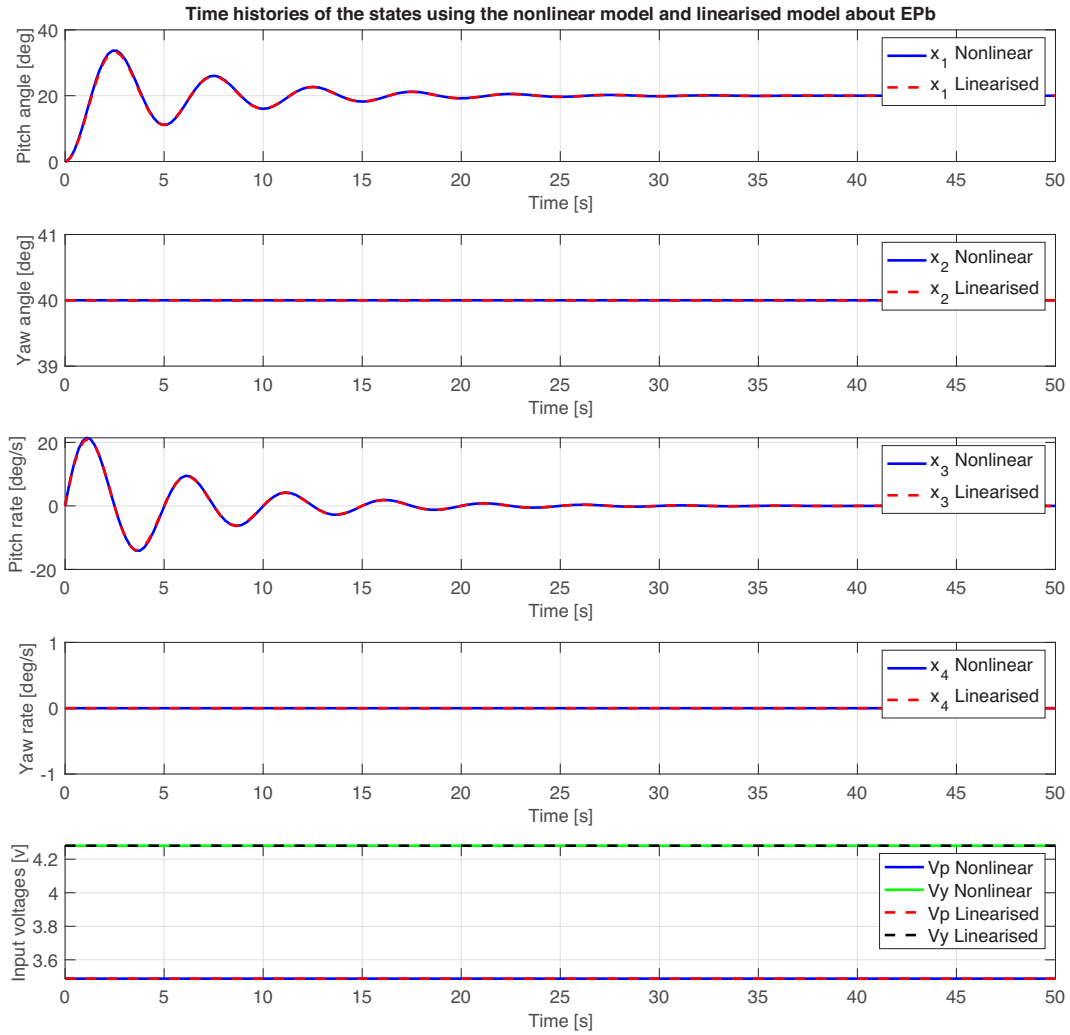

Figure 7: Time histories of the states and input voltage.
5. Repeat this process for initial conditions about the equilibrium point \bar{x}_b . Save your script as `aero_mainfile_modelling_comparison_b.m`. Sample results for the initial conditions $x_1(0) = 0$ deg, $x_2(0) = 40$ deg, $x_3(0) = 0$ deg/s and $x_4(0) = 0$ deg/s, $V_p = \bar{V}_{pb}$ and $V_y = \bar{V}_{yb}$ are shown in Figure 7.